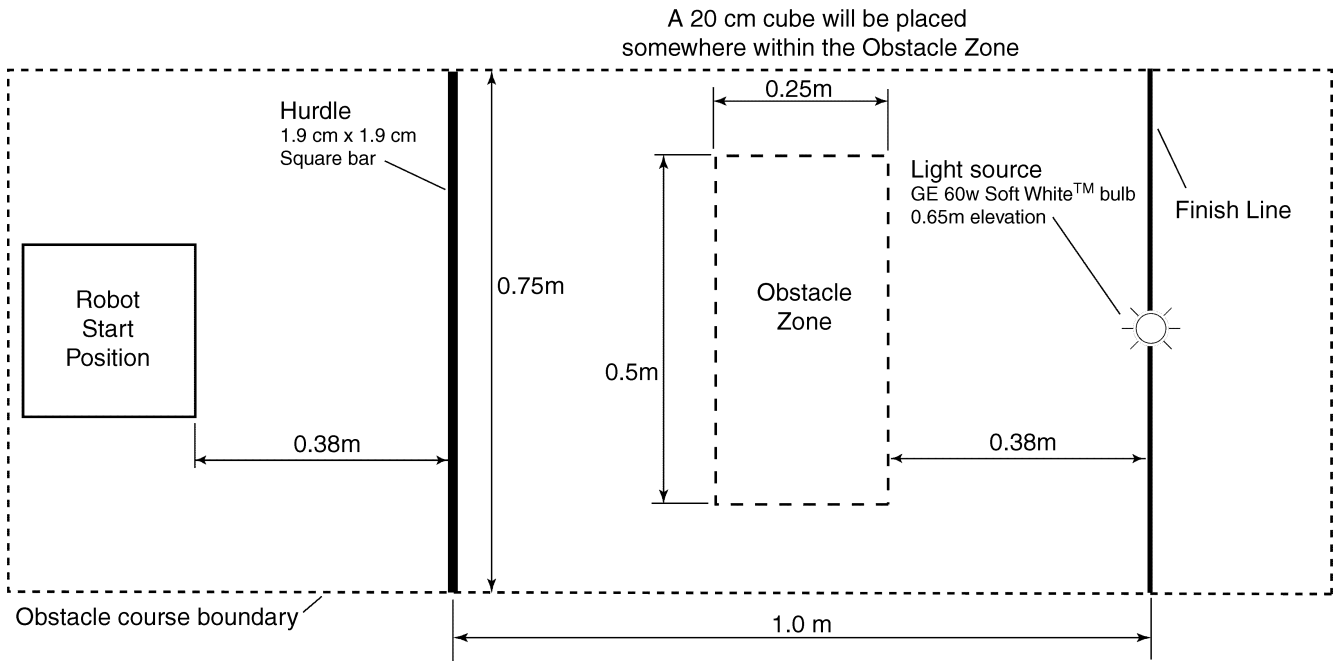

Figure 2. Modified hurdle course diagram.
3. **Modified Hurdle Race:** The modified hurdle race provides the robot with a variety of obstacles that must be maneuvered as quickly as possible. As shown in Figure 2 on the next page, the racecourse consists of a 1.9cm x 1.9cm hurdle placed 0.38m away from the robot starting position, a 20cm cube placed somewhere within the indicated Obstacle Zone, and a finish line located 1.38m from the starting position. The robot must cross the hurdle, maneuver around the cube, and then cross the finish line. This is a timed event that must be completed within 90 seconds. The robot may not leave the indicated boundary of the course. Each robot will have two opportunities to run the course.